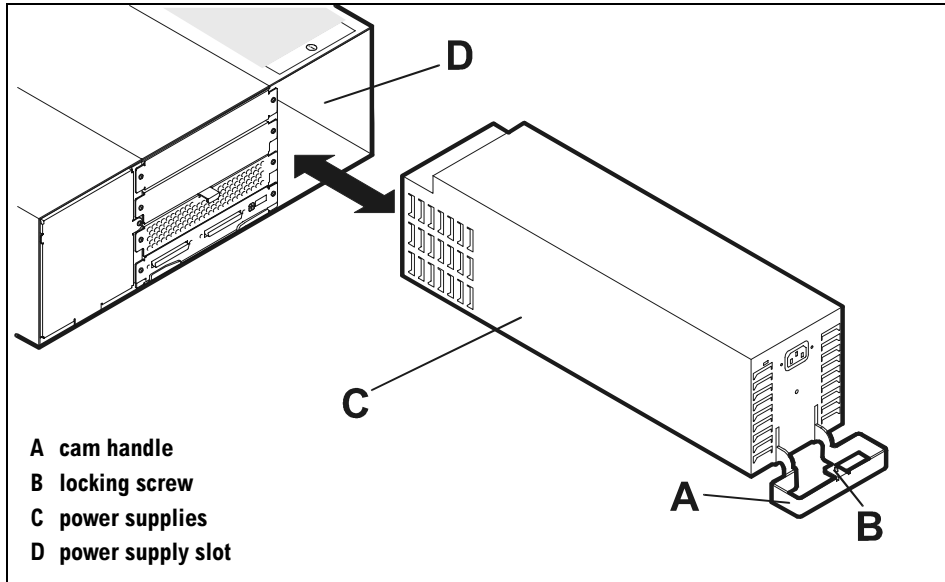

Figure 55 Power Supply Removal and Replacement
2. Loosen the screw (B in Figure 55) from the cam handle (A).
5. With the handle down, slide the replacement power supply into the vacated slot (D in Figure 55). As the power supply begins to engage the backplane, 3/8 inch (8mm) will still be exposed.
7. Tighten the screw (B) in the cam handle (A).